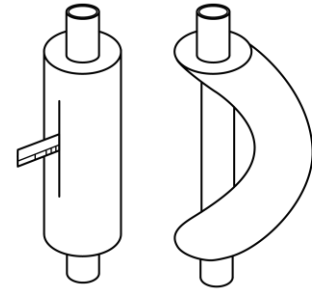

Fig. 4.3
- (1) Reshape the pipe by hand. Be careful not to damage the pipe.
- (2) Do not bend the pipe over 90°.
- (3) If pipe is repeatedly bent or stretched, it will get hard and difficult to bend and stretch again. Therefore, do not bend or stretch the bend for over 3 times.
- (4) In case that direct bending will open cracks to the pipe, first use sharp cutter to cut the insulating layer, as shown in Fig. 4.3. Do not bend the pipe until it is exposed. When bending is done, wrap the pipe with insulating layer and then secure it with adhesive tape.